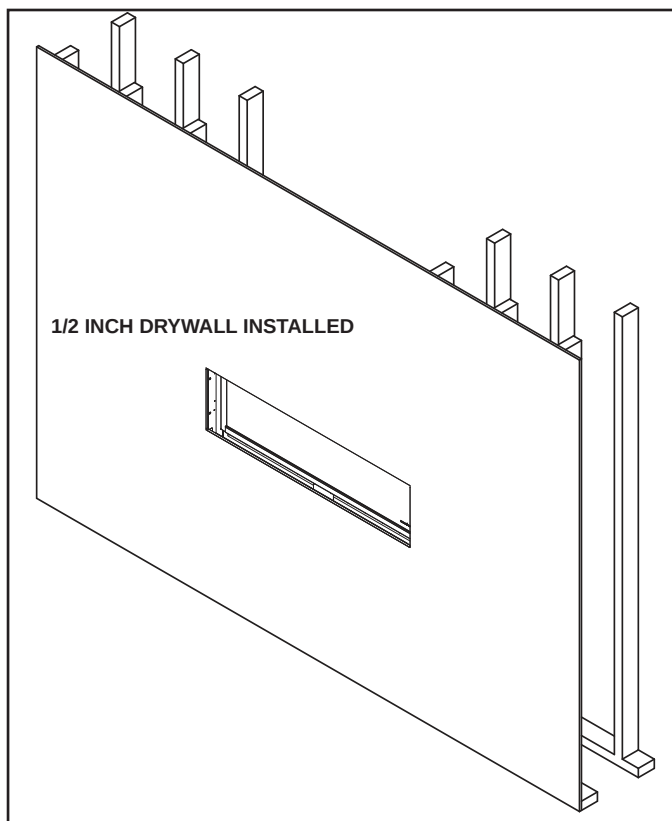
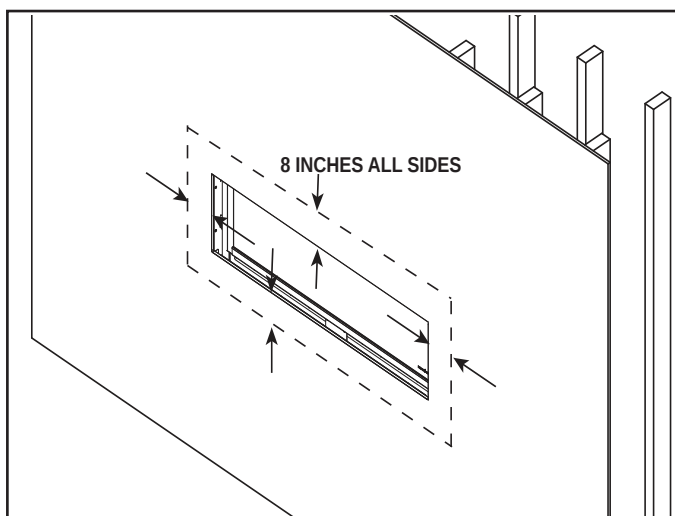

Figure 10.3
Figure 10.4 Feather Joint Compound Evenly
1. Install 1/2 inch drywall on wall. Figure 10.4 shows the VELLIS installed. Drywall (1/2 inch) has been installed up to the top, bottom and sides of appliance opening as shown in Figure 10.3 and 10.4. See Section 10.A for more details regarding facing material.
2. Apply the drywall joint compound. When applying the joint compound, feather it evenly around the opening throughout the zone shown in Figure 10.4. A smooth, even surface, covering a wide area of the wall is desired for best results. For best results, follow the tips below.